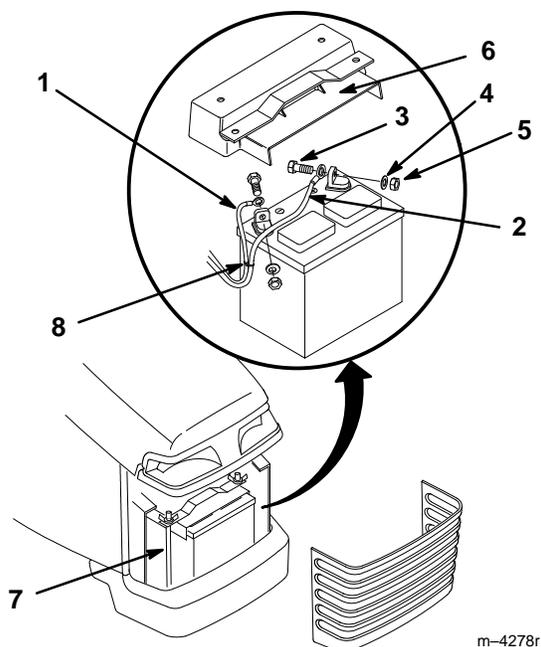

Figure 56
3. Remove the battery shield (Fig. 56).
4. Disconnect the negative (black) ground cable from the battery post (Fig. 56).
5. Disconnect the positive (red) cable from the battery post (Fig. 56).
1. Place the battery onto the chassis (Fig. 56).
2. Using the bolt, washer and locknut, connect the positive (red) cable to the positive (+) battery post (Fig. 56).
3. Using the bolt, washer and locknut, connect the negative (black) cable to the negative (-) battery post (Fig. 56).
4. Replace the battery shield and secure to the chassis with hold-down rods and wing nuts (Fig. 56).